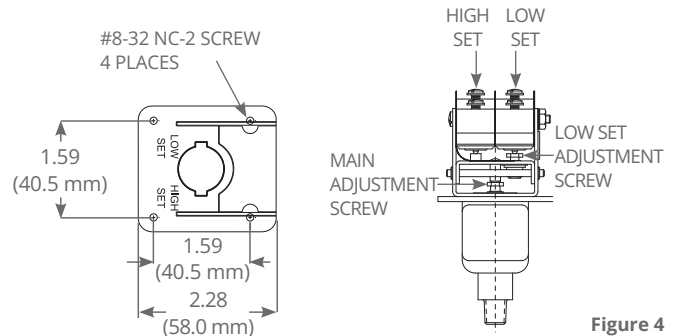

Figure 4
**ON DUAL SWITCH UNITS, “LOW SET” SWITCH MUST ALWAYS BE SET EQUAL OR BELOW THE “HIGH SET” SWITCH (SEE FIGURE 4).**
- 2 If it is desired that the switch transfer on “pressure fall,” turn the main adjustment screw clockwise until the switch transfers again (see Figure 4).
- 2 If it is desired that the “Low Set” switch transfers on “pressure rise,” turn the low set adjustment screw counterclockwise until the switch transfers (see Figure 4).